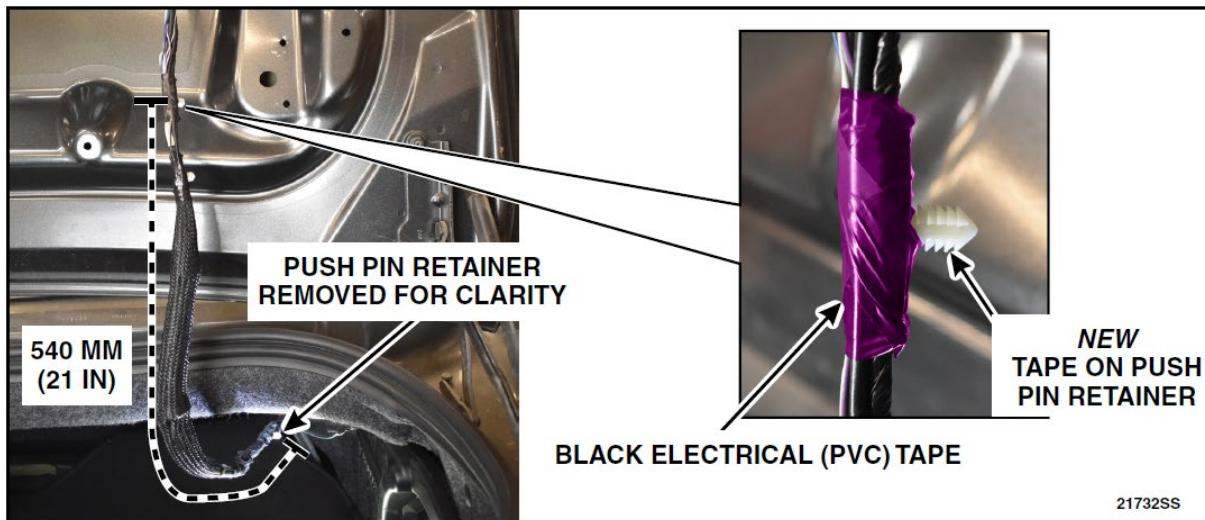

FIGURE 52
71. Measure 540 mm (21 in) from the wiring harness take out tape on push pin retainer and install a new tape on push pin retainer using some KTI73510 or equivalent black electrical (PVC) tape. See Figure 52.